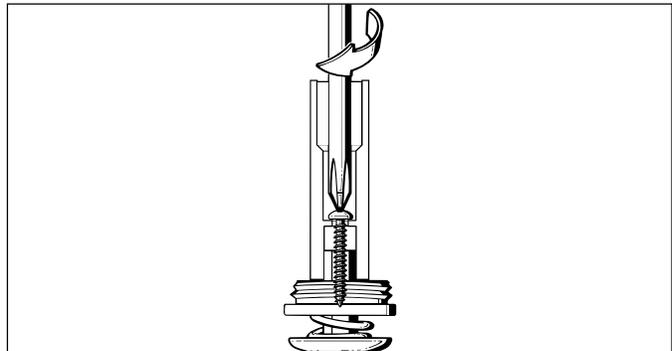

Figure 10
1.3.4 Drop the oral seal screw(38) into the open end of the Oral Assembly Tool (P/N 42316), so that the tip protrudes out of the slotted end. Place the slotted end of the tool directly above the center of the bezel and slowly press the tool down, rotating it in either direction if necessary, until it fully engages with the hex of the poppet. While holding the tool and bezel depressed, insert a small Phillips screwdriver through the open end of the tool, and gently thread the screw clockwise into the poppet (see Fig. 10). After ensuring that the screw is correctly threaded, continue turning it clockwise only until lightly snug, and remove the screwdriver. The bezel should now be held securely in place while the tool is temporarily installed over it, with the spring compressed beneath it to facilitate the installation of the button cover.